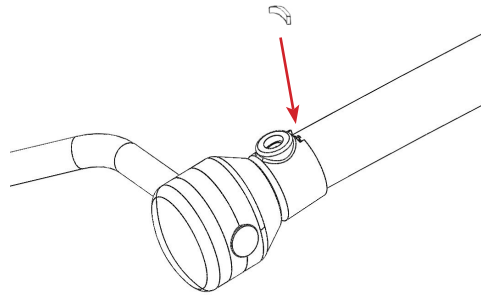

FIGURE 2.31 - Insert Retaining Tab
STEP 5: Insert the retaining tab to secure the light head to the arm. Refer to FIGURE 2.31